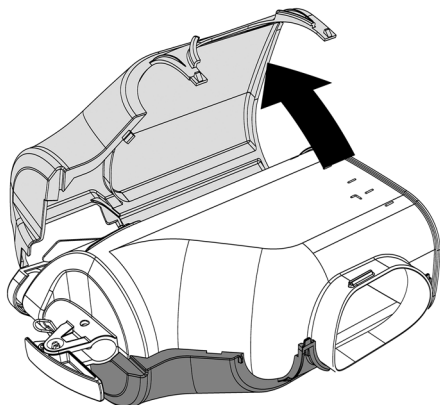
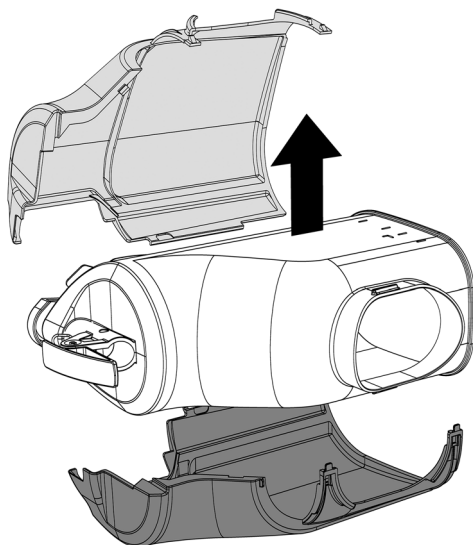

figure 17
figure 18
**2** Remove the left-hand part and then the right-hand part of the recover. (see figure 17)(see figure 18).